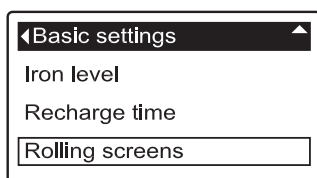

FIG. 40
3. Press the SELECT (O) button to display the Basic settings menu (See Figure 40).
7. To un-select a screen, make sure its name is highlighted in a box. Then press the SELECT (O) button. The black square will disappear. Pressing SELECT (O) again makes the black square reappear and re-selects the highlighted item. At least one screen must be selected/highlighted.
8. When selections are complete, exit this menu by pressing the LEFT (◀) button. The display will go back to the Basic settings menu (Figure 40).